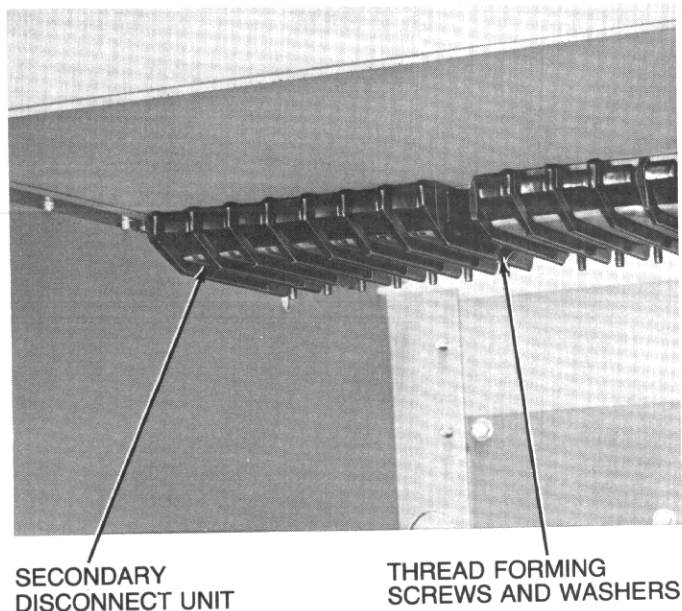

Figure 5
The unit is attached to the support piece forming the top of the compartment as shown in Figure 5 in the location desired with (2) $\frac{1}{4}$ -20 screws and washers. Locate the unit with the #10 wiring screws to the rear of the compartment.